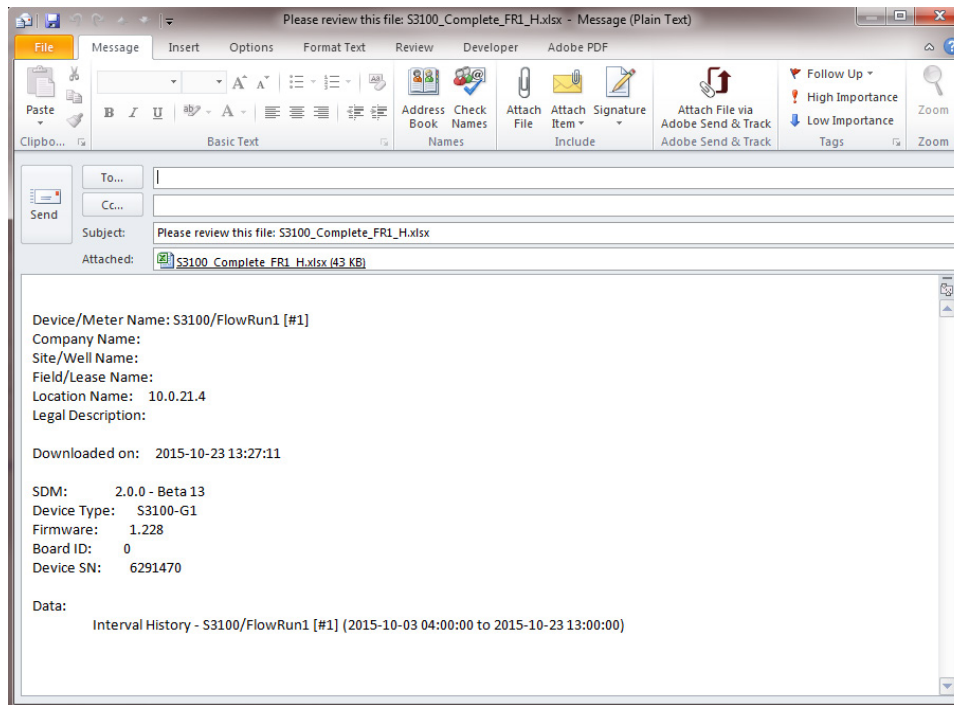

Figure 3.5—Automated email for single log file
- Click **Save** to export the data. Scanner Data Manager will automatically open an email window on your computer, attach the export file, and embed a brief description of the file in the body of the email (Figure 3.5, page 34).